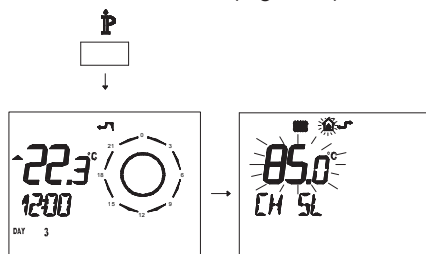

Fig. 8.18
- Press button **P** for more than 3 seconds to enter in **INFO** mode (Fig. 8.18).